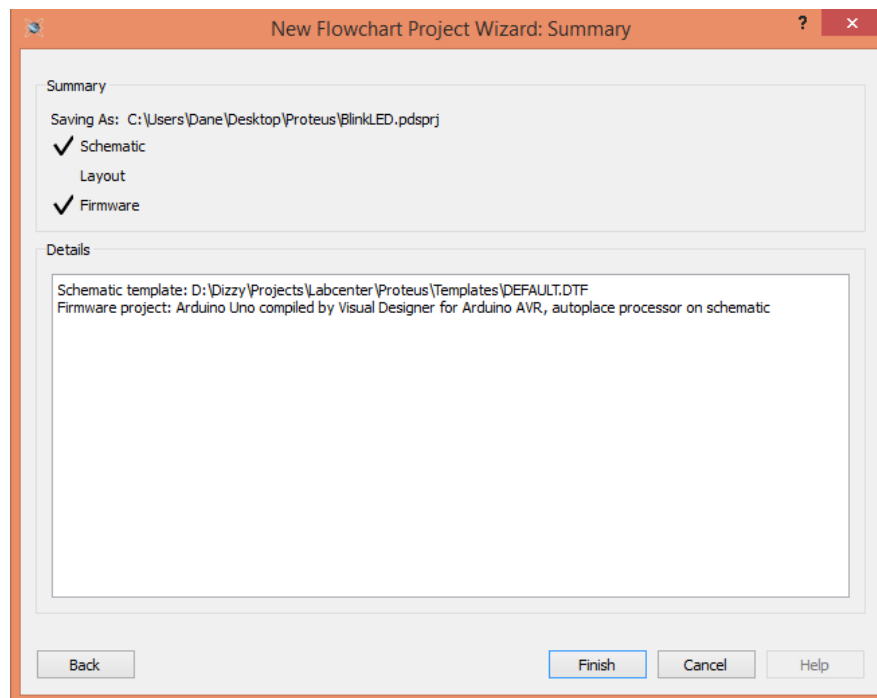

Figure 2-4: Summary of details for new project
Step 4: The last step of the New Project Wizard displays a summary of the details for the new project to be created (Figure 2-4).